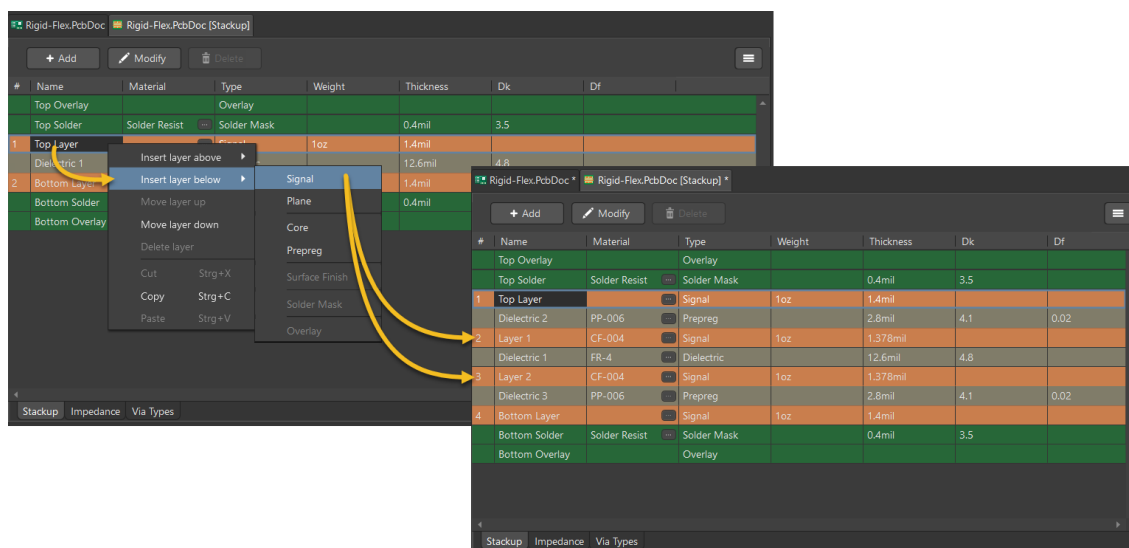

Figure 5. Adding a new layer in Layer Stack Manager
21. Select **Signal** to add a signal copper layer, as shown in Figure 5.
23. If this option was disabled, insert a Signal layer below `Layer 1` so that your Stackup is the same as Figure 5.